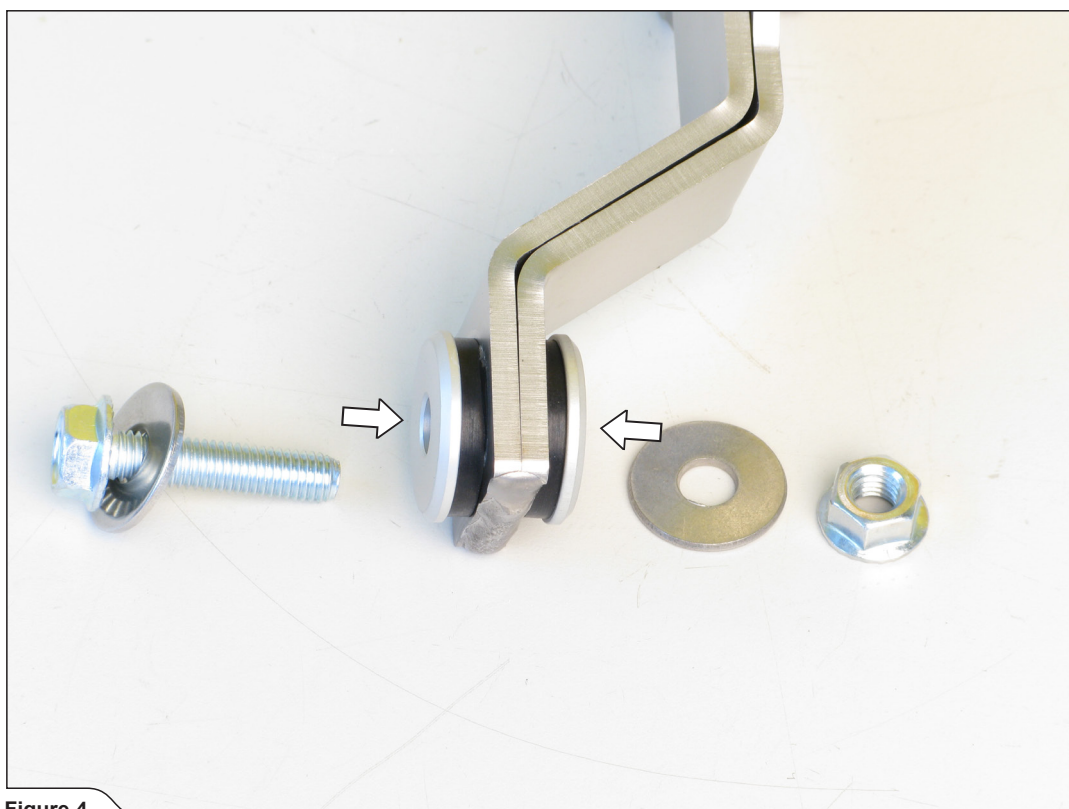

Figure 4
1. Assemble the rubber dampers from Akrapovič installation kit) onto the muffler bracket (Figure 4).